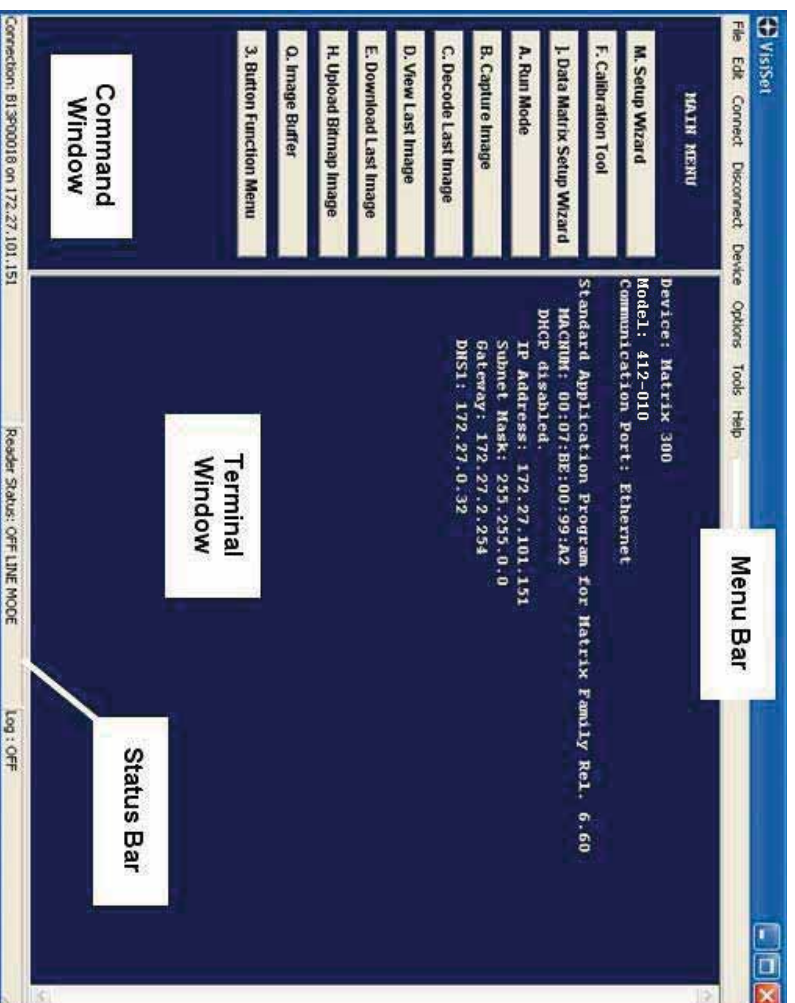

Figure 71 - Main Window
Upon connection, Matrix 300™ exits Run Mode and displays the Main Menu on VisiSet™ with all the commands necessary to monitor your reader's performance. You can select these commands using the mouse or by pressing the key corresponding to the letter shown on the button. See Figure 71.
The **Options** item from the VisiSet™ menu (see Figure 71) presents a window allowing you to configure:
6. Close the Parameter Setup window and press **Disconnect** on the VisiSet™ menu bar (see Figure 71) or launch **Run Mode** from the VisiSet™ Main menu.